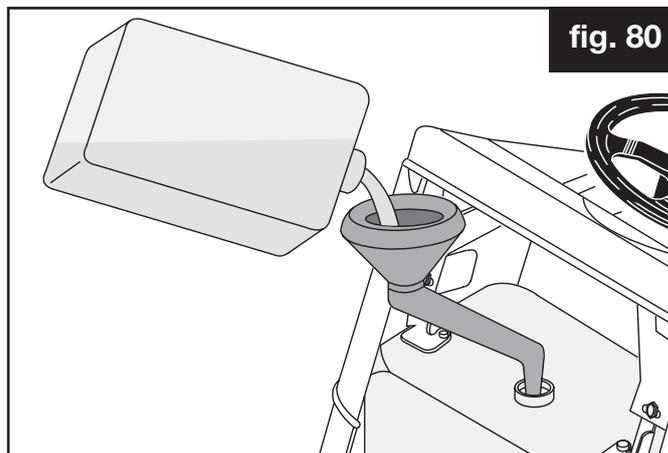

fig. 80
1. That you have not run out of fuel. To re-fuel, see fig. 80.